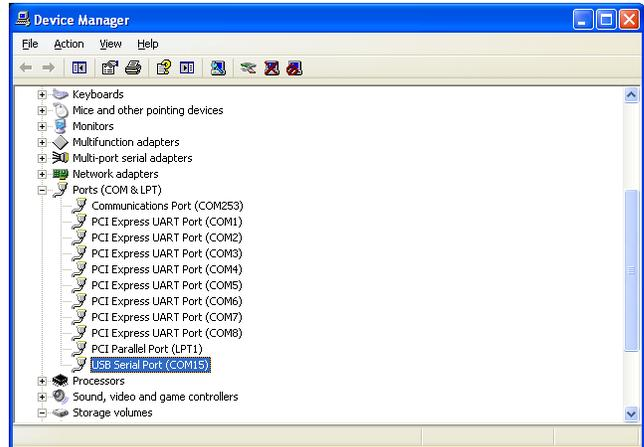

Figure 9. Device Manager with "Ports (COM&LPT)" expanded.
4. **Press the "Device Manager" button** to open the "Device Manager" (Figure 9).